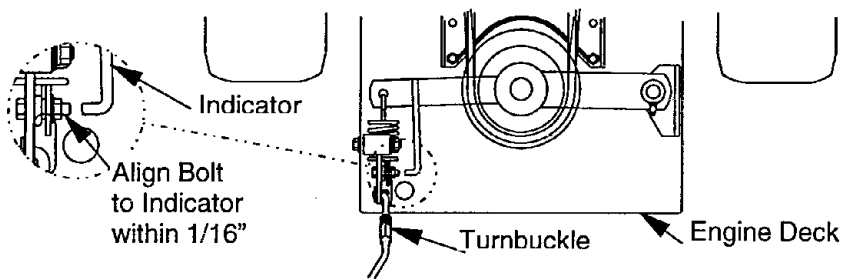

FIG. 12
- c) Look through the round hole in the left rear corner of the engine deck to inspect blade clutching belt tension. Bolt on blade engagement linkage bellcrank and indicator arm should align within 1/16" (See fig. 12). Refer to section 5.2.2 for adjustment.
- b) With blade drive engaged, adjust the linkage length by loosening the locknut on the turnbuckle and adjusting the turnbuckle so that the bolt on the bellcrank and the indicator arm align with each other within 1/16" . See Figure 12. Tighten locknut against turnbuckle.